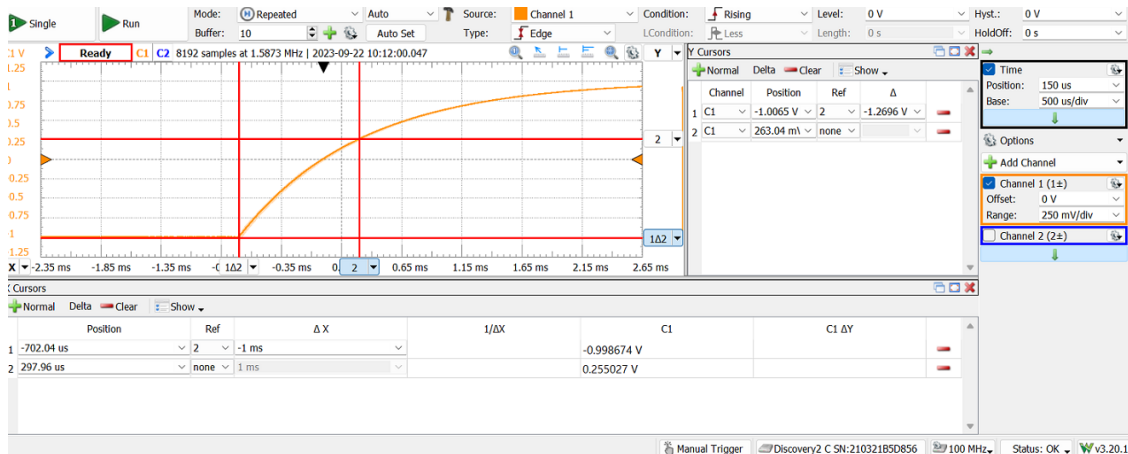

Figure 7: Measuring the time constant of RC circuit with cursors on the charging graph of the capacitor
- Visible in Figure 7, the resolution of the time scale on WaveForms is 0.05 ms, so we get an instrument uncertainty of $0.05 \text{ ms} \times 0.5 \times \frac{1}{2^{14}} \approx 2 \times 10^{-12}$, which comes from a formula for the AD2's error the TA provided. This value is so small we really just have the measurement error as the primary uncertainty